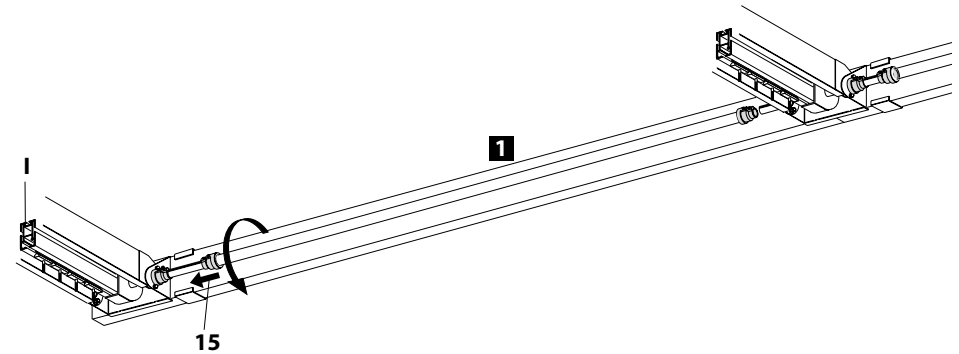

fig. 19 - Shaft installation
- Loosen the screw (**15**), run the shaft (**1**) rotating it (see fig. 19) to compact the sliders in the runner (**1**).